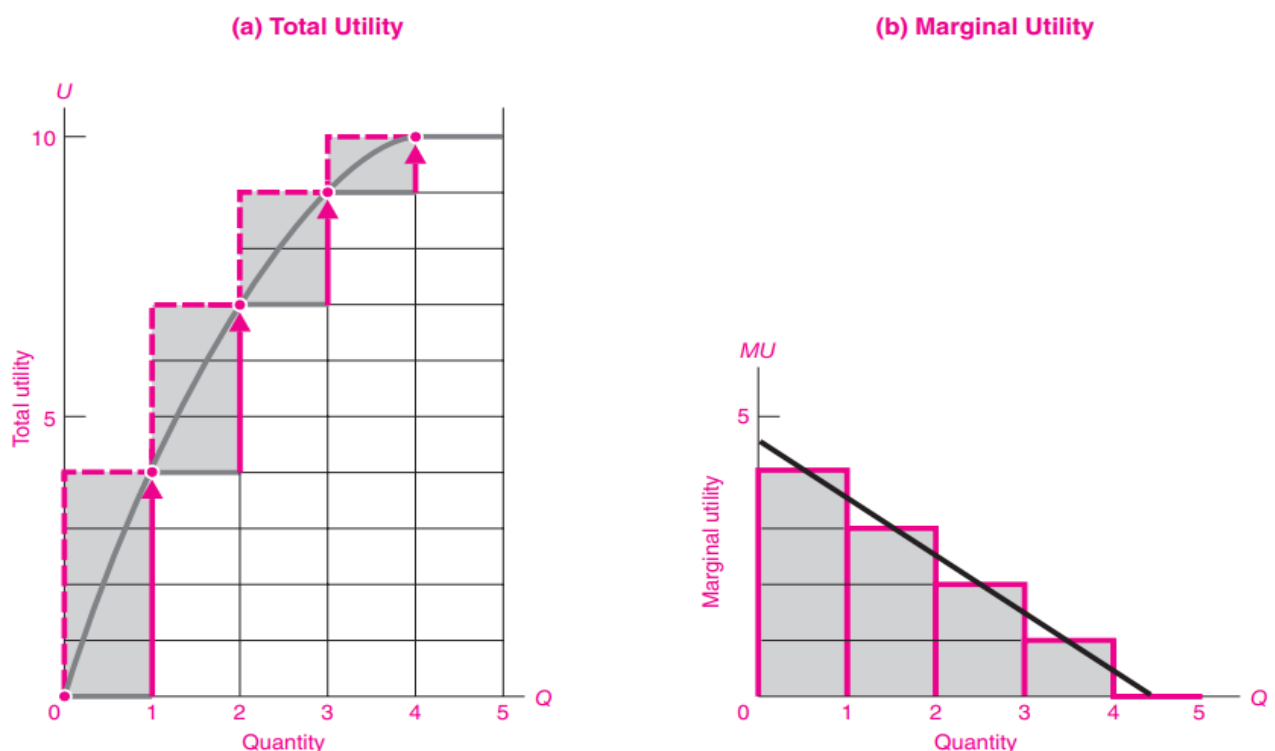

FIGURE 5-1. The Law of Diminishing Marginal Utility
Using Figure 5-1, we can easily see that the total utility of consuming a certain amount is equal to the sum of the marginal utilities up to that point. For example, assume that 3 units are consumed. Column (2) of Table 5-1 shows that the total utility is 9 units. In column (3) we see that the sum of the marginal utilities of the first 3 units is also $4 + 3 + 2 = 9$ units.
Figure 5-1 shows graphically the data on total utility and marginal utility from Table 5-1. In part (a), the blue blocks add up to the total utility at each level of consumption. In addition, the smooth blue curve shows the smoothed utility level for fractional units of consumption. It shows utility increasing, but at a decreasing rate. Figure 5-1(b) depicts marginal utilities. Each of the blue blocks of marginal utility is the same size as the corresponding block of total utility in (a). The straight blue line in (b) is the smoothed curve of marginal utility.
The law of diminishing marginal utility implies that the marginal utility (MU) curve in Figure 5-1(b) must slope downward. This is exactly equivalent to saying that the total utility curve in Figure 5-1(a) must look concave, like a dome.
Examining Figure 5-1(b), we see that the total area under the marginal utility curve at a particular level of consumption—as measured either by blocks or by the area under the smooth MU curve—must equal the height of the total utility curve shown for the same number of units in Figure 5-1(a). Whether we examine this relationship using tables or graphs, we see that total utility is the sum of all the marginal utilities that were added from the beginning.